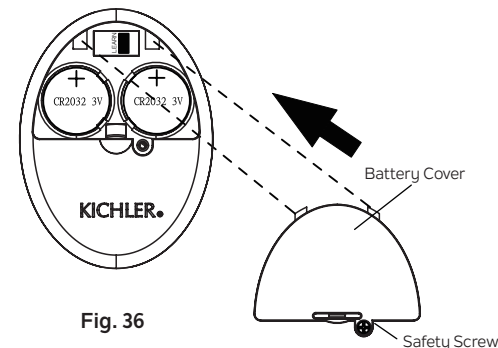

Fig. 36
Reinstall the battery cover to the back of the transmitter and tighten the safety screw. (Fig. 36)
Step 3. Reinstall the battery cover and safety screw to the back of the transmitter and tighten the safety screw. (Fig. 36)
Step 3. Reinstall the battery cover to the back of the transmitter and tighten the safety screw. **(Fig. 36)**